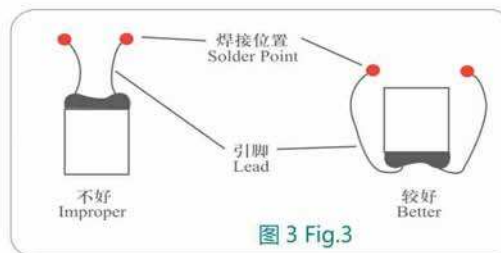

图 3 Fig.3
- 尽可能利用长一些的引脚，长一些的引脚允许较长的焊接时间及减少过热的可能性。（见图 3）为如何在较小的位置保留长一些的引脚的例子。在引脚较短的情况下，在焊接时要用尖嘴钳或其它工具夹在引脚上焊点和保险丝体之间位置上以散热，避免焊接热传入量温度保险丝内部。同时焊接温度应控制不要过高，焊接时间尽可能短。
- Using the lead wires as long as possible when soldering, longer leads permit a longer soldering time and reduce the possibility of overheating. Fig.3 is an example of how to keep a longer lead wires when a thermal cutoff is installed in a small space. It is recommend that using a heat sink between the soldering point and sealant to minimized the heat transmission to thermal cutoff. Avoid the soldering temperature is too high and keep the soldering time as short as possible.